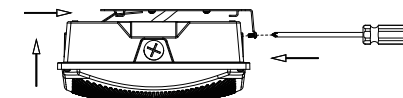

Figure 7
5. Install the fixture by the plate, then fasten the screws on both sides of the fixture (Figure 7) .